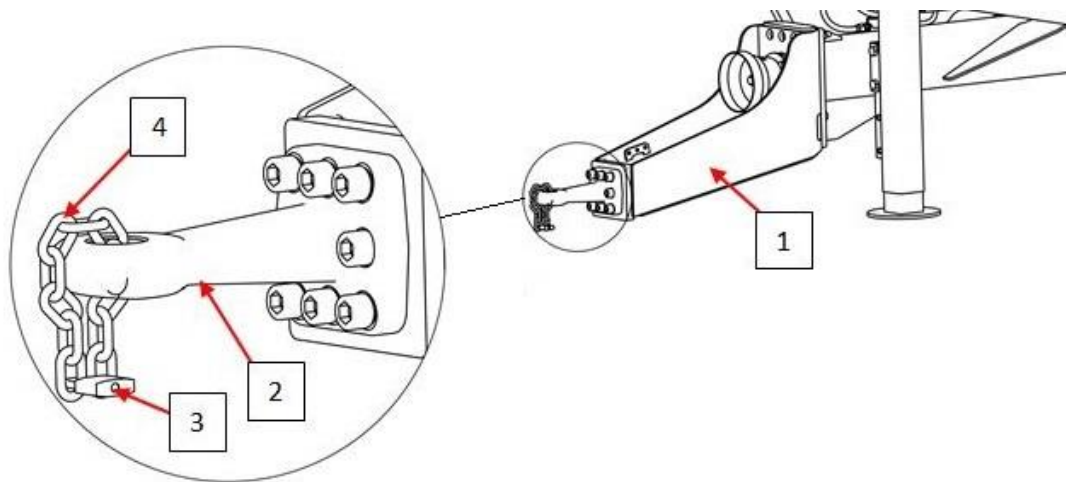

Figure 3.1. Securing the machine against unauthorized use.
- Remove the chain protecting against unauthorized use from the eye of the drawbar (fig. 3.1).